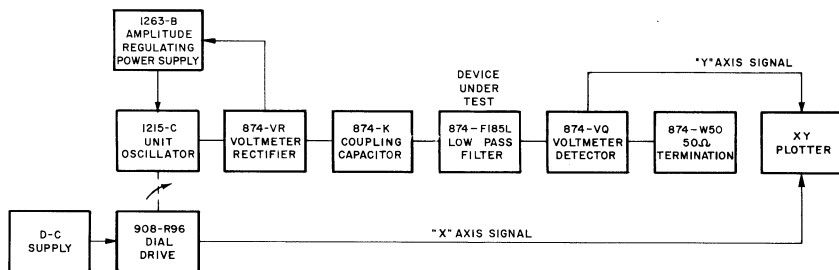

Figure 5. Swept frequency setup utilizing a Type 874-VR.
3.3 AUTOMATIC AMPLITUDE CONTROL. The Type 874-VR/-VRL can be used, together with the Type 1263-B Power Supply², (Figure 5), to keep the output of an oscillator constant when the frequency is varied.